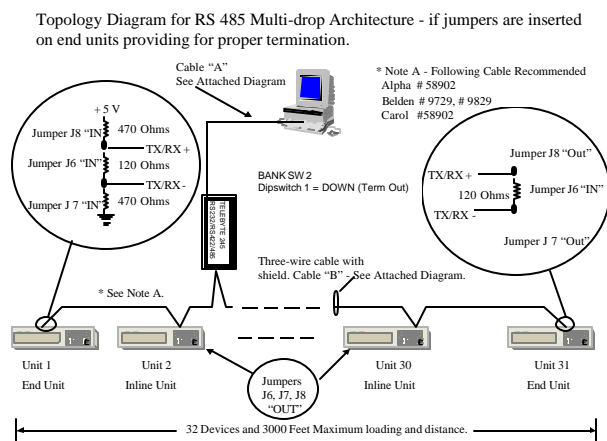
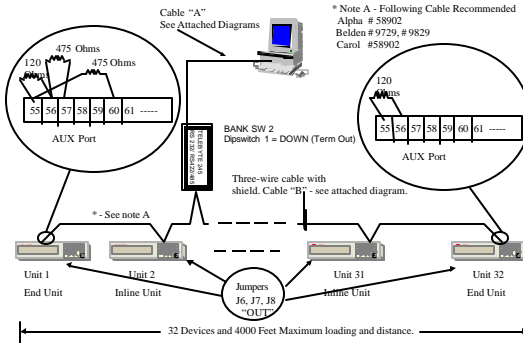
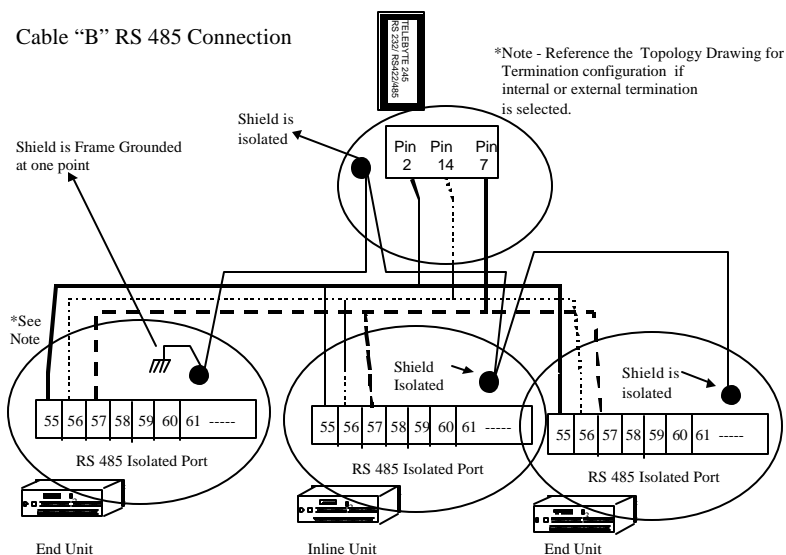

Figure 4 – RS 485 2 WIRE TERMINATION WITH THE RS 232/485 Converter INLINE and ABB Protective Relays At End Of Line Locations.
Figure 6 – Termination Using External Resistors And The Telebyte Converter Being An "In-Line" Unit.
Figure 8 – Conductor Connectivity Diagram For The 2000R Products And The Telebyte Converter “Inline”
1. In attachment to ABB relays in a Utility installation, one must remember to use a cable with 3 wires and a shield. Refer to Figures 4 through 7 for ABB recommended cables.
RS 485 2 Wire connection diagrams are referenced in Figures 4 through 7. Figures 4 and 5 use the internal resistors within the DPU, GPU, TPU and MSOC units. Figures 6 and 7 illustrate an alternate method of using external resistors to provide biasing and line termination.
One should recognize that termination is at both extreme ends of the cable. Also Figures 4 and 5 have the cable daisy-chained, thus minimizing communication signal reflections.
Figures 4 through 7 illustrate the addition of resistors between the TX/RX (+) line and +V, and TX/RX (-) line and ground. These resistors are called bias resistors. Bias resistors are inserted at one node only, preferably at one extreme end of the network.
Figures 8 and 9 illustrate the individual conductor connectivity for attaching the ABB protective relays in the DPU/TPU/2000 and the DPU/TPU/GPU 2000R. It is important to note that Figures 8 and 9 illustrate only the attachment of each device terminal. EACH NODE MUST BE DAISY-CHAINED AS ILLUSTRATED IN FIGURES 4 THROUGH 7.